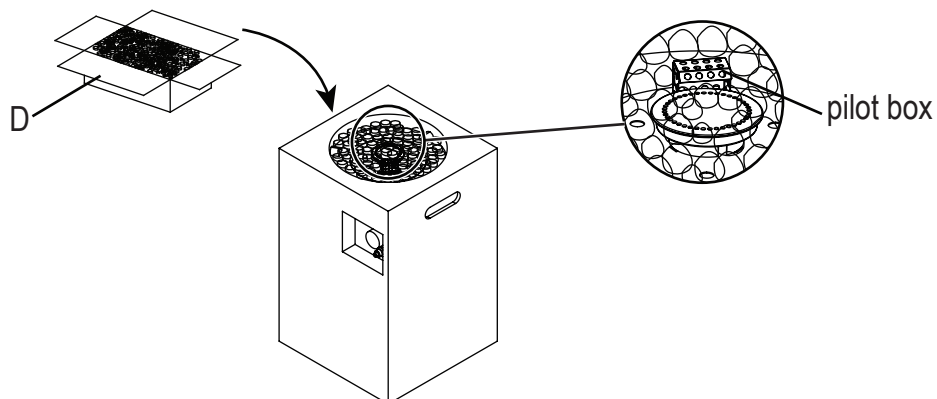

Figure 2
- Open the box of lava rocks, put the lava rocks (D) into the fire bowl of the fire table (A), (See Figure 2). A gas fire pit requires 4.18 lbs lava rocks.